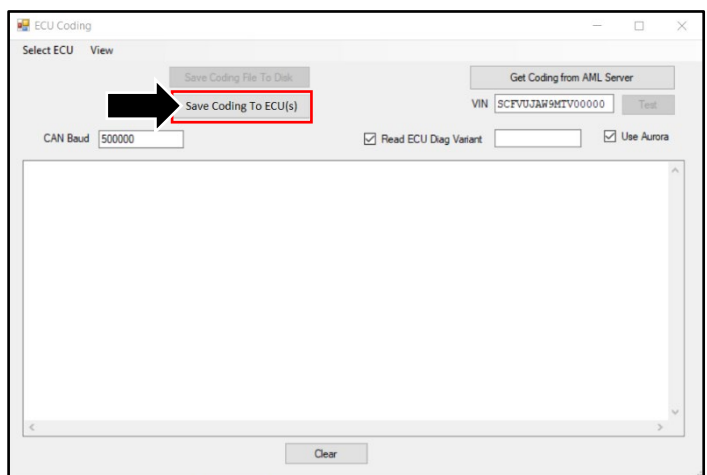

Figure 8
12. Select "Save Coding To ECU(s)" (refer to Figure 8).